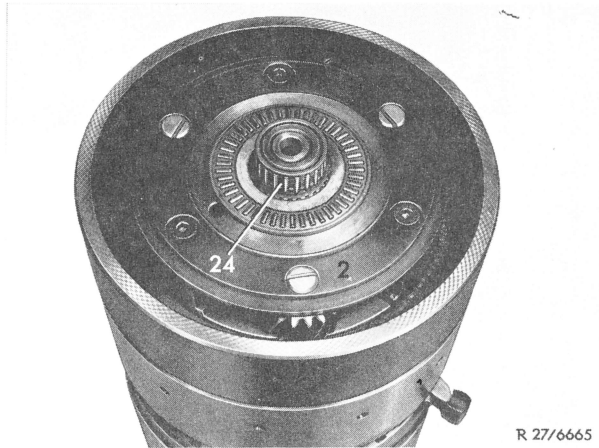

Fig. 29
44 Position planetary gear carrier (2) while slightly turning back and forth, so that the inner plate carrier enters the teeth of the plates, then insert radial bearing (24) (Fig. 29).